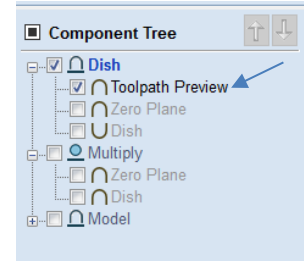

Fig. 10
9. Go to the Modeling Tab (left side), turn off all components in the “Component Tree” except the new “Toolpath Preview”. (Fig. 10)